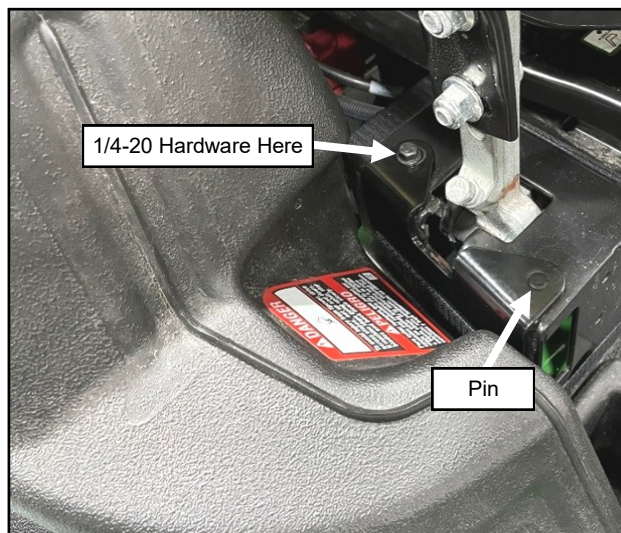

Fig. 1.30 (Install Arm Restrictors, Right)
- 1.30 Install the arm restrictors using 1/4-20 hardware, making sure the locating pin is on the front hole as shown in Figure 1.30. Fully tighten.